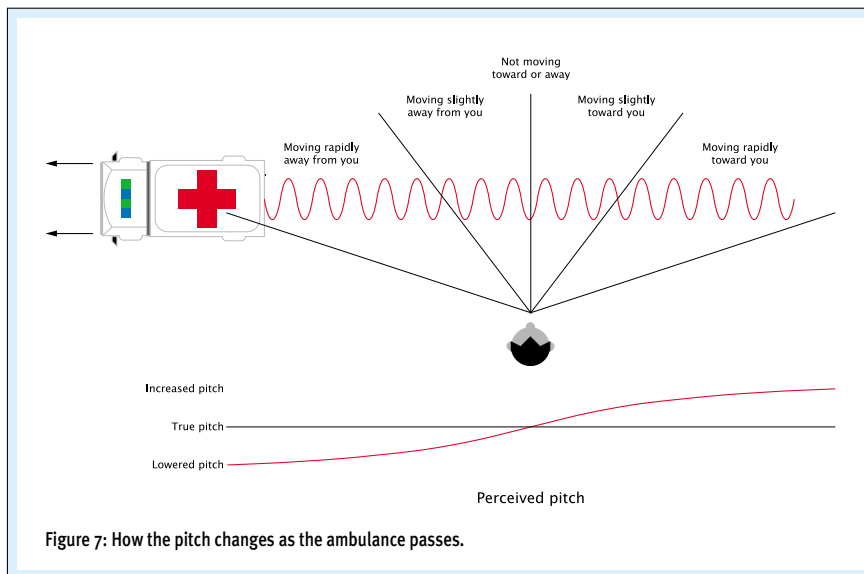

Figure 7: How the pitch changes as the ambulance passes.
► pitch describes some sort of curve as the ambulance passes. This is the case illustrated in Figure 7 (above).